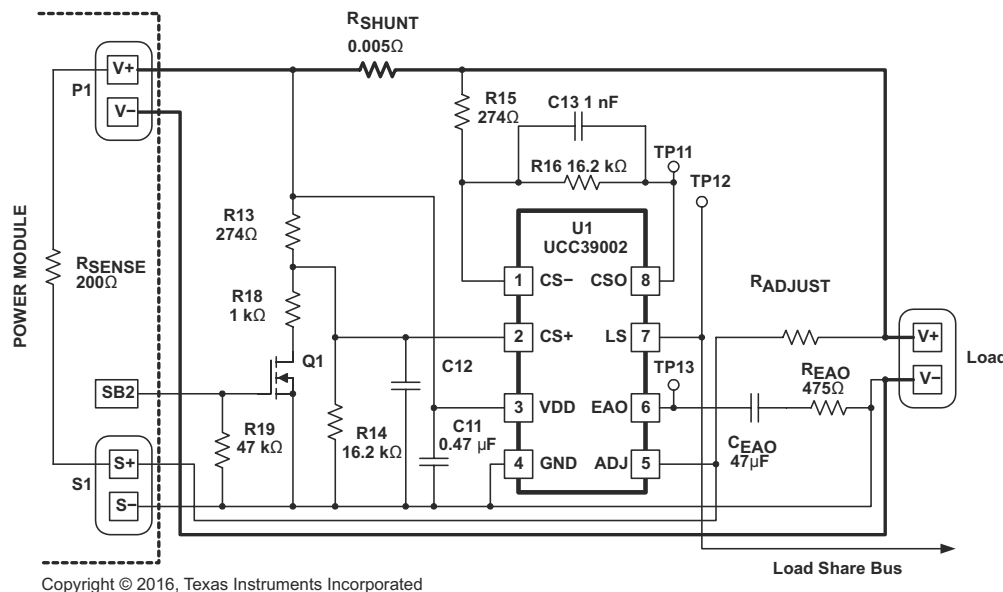

图 7-1. Typical High-Side Application for a Single Power Module
图 7-1 shows a typical high-side current-sense configuration for a single module which is repeated for each module to be paralleled. Direct connection of the VDD pin to the power module V_{OUT} rail ($V+$) is valid for V_{OUT} less than 13.5V.
In Figure 7-1, P1 represents the output-voltage connector terminals of the module and S1 represents the remote-sense connector terminals of the module. In this example, a signal on the SB2 terminal enables the disconnect feature of the device. The Load-Share Bus is the common bus between all of the paralleled load-share controllers. The VDD supply must be decoupled with a good-quality ceramic capacitor returned directly to GND.
Referring to 图 7-1, the DC gain of the CSA is equal to R_{16}/R_{15} , and a high-frequency roll-off pole used for noise filtering is set by C_{13} . These component values are repeated at R_{14} , R_{13} , and C_{12} on the CS+ pin of the differential amplifier, as shown.
where (referring to 图 7-1)
- A_{CSA} is the DC gain of the Current-Sense Amplifier. (R15, R16 refer to 图 7-1.)